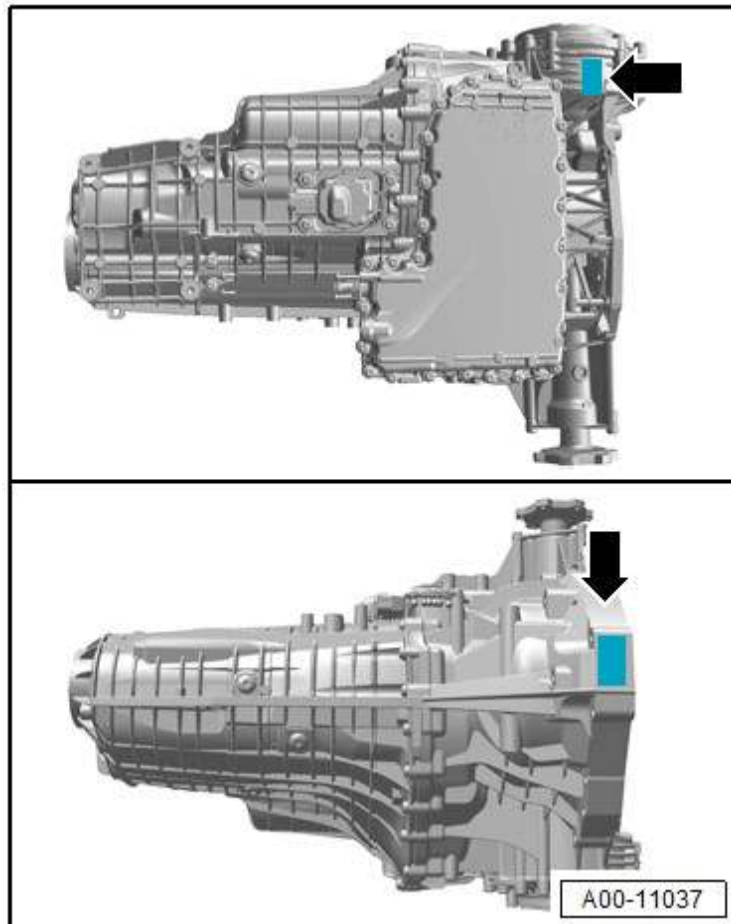

Figure 1. Locations of data stampings.
- Check one of the transmission data stamps which are located on the bottom of the front differential and the top of the bell housing (Figure 1).